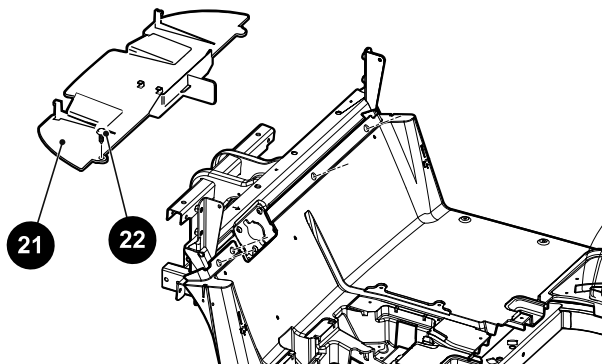

Figure 9 Front Splash Guard
Remove two ratchet rivets (22) securing front splash guard (21) to vehicle (Figure 9).